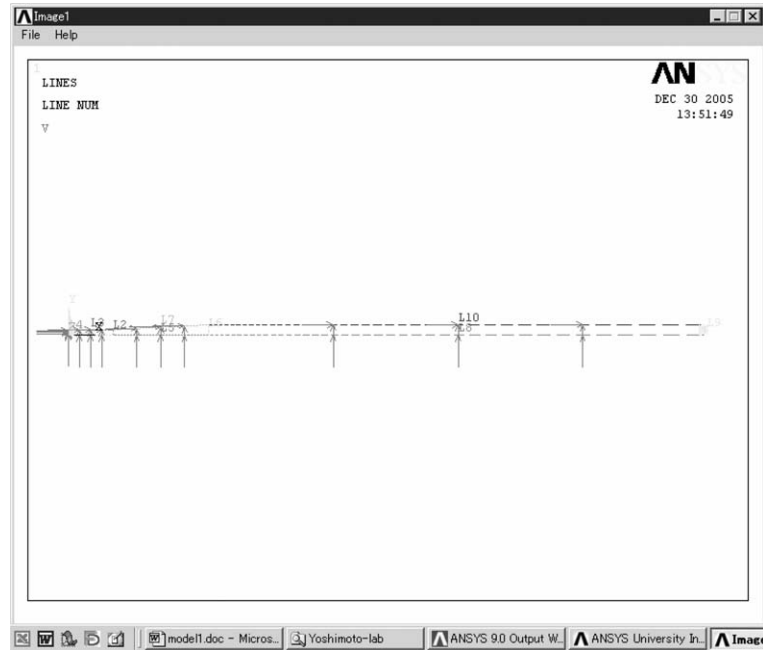

Figure 5.25 ANSYS Graphics window.
- (2) Input [B] **0** to **PRES** box and close the window by clicking [C] **OK** button. The drawing on **ANSYS Graphics** window is displayed as shown in Figure 5.25.